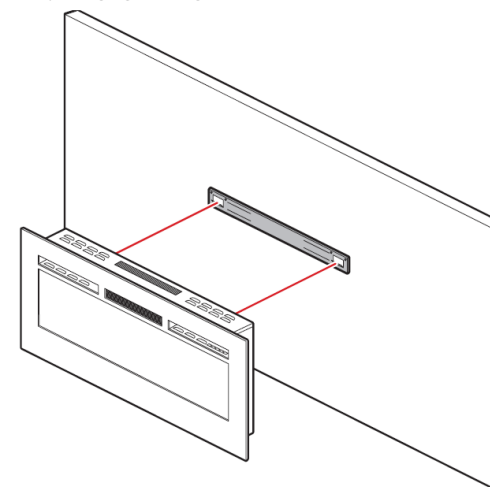

Fig.6
- Lift the heater and carefully lower it onto the mounting bracket, ensure that bracket and heater are firmly engaged.Fig.6